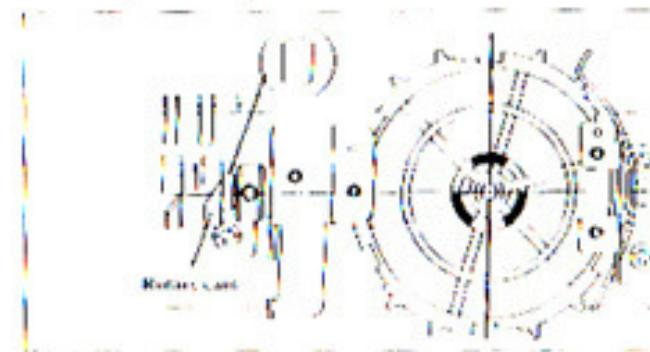

Figure 14-10
- (1) Turn the rotary cam until the flat part of rotary cam's right end is straight down, as shown in the figure (14-10).
- (2) Put the washer on the rotary encoder and place the rotary encoder such that its relationship to the rotary cam is as shown in Figure 14-10.
- (3) Put the washer on and secure it with a snap ring.
- (4) Mount the encoder board holder.